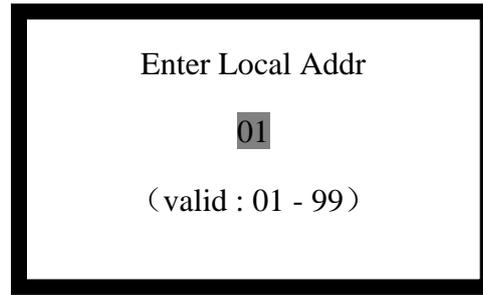

Fig. 4-27
- Selecting "3.Local Addr" and entering the user password shows the screen of Fig.4-27. Enter the actual value (if the entered value is illegal, it cannot be saved) .Press **【Menu/Enter】** to save the modification and exit. Press **【ESC】** to cancel the operation.